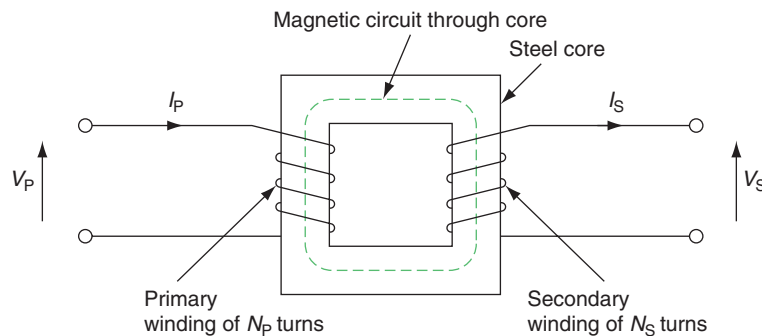

FIGURE 2.8
- A transformer such as that shown below in Fig. 2.8 consists of two coils called the primary and secondary coils or windings, wound on to a common iron core.